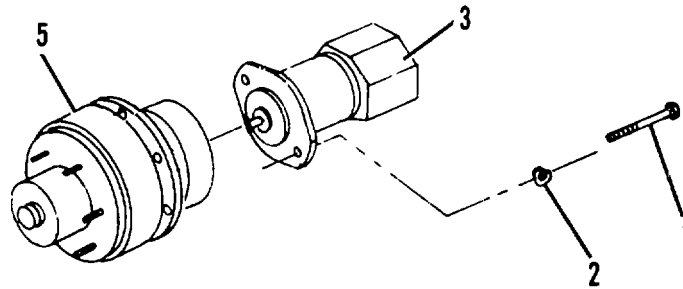

Figure 4-10.3. Hydraulic Motor Assembly.
- (q) Mate motor assembly (3, Figure 4-10.3) to brake/drive hub (5) assembly. Secure motor assembly with two capscrews (1) and washers (2).